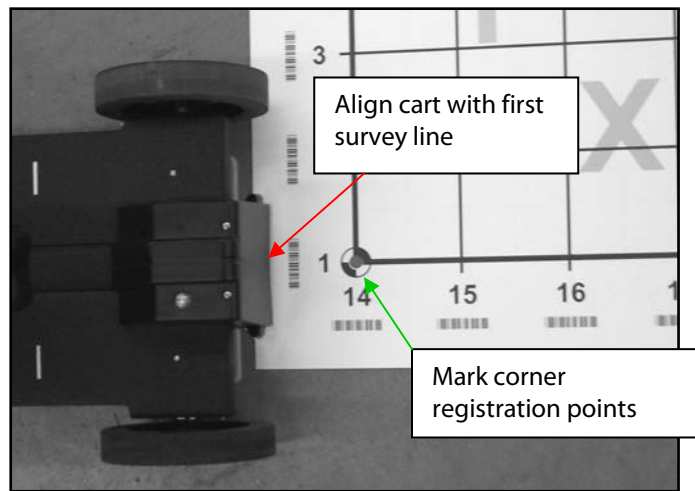

Figure 68: Pad scanning.
- 7 With the minicart aligned at the beginning of your first profile (Figure 68), press the Mark button on the minicart. (thumb button). The SIR-20 will beep once and you will see the wording “SCAN LINE ID” in the Prompt Area.